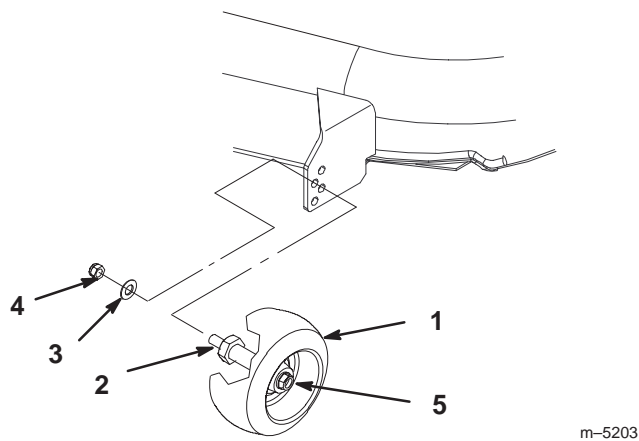

Figure 17
1. After adjusting height-of-cut, remove nut and washer while holding stud with wrench (Fig. 17).
Note: Do not remove the wheel nut and washer (Fig. 17).
2. Select a hole position so the gage wheel is a minimum of 3/8 in. (9.5 mm) off the ground for the height-of-cut to be used (Fig. 17).
3. Reinstall the stud nut and washer (Fig. 17).